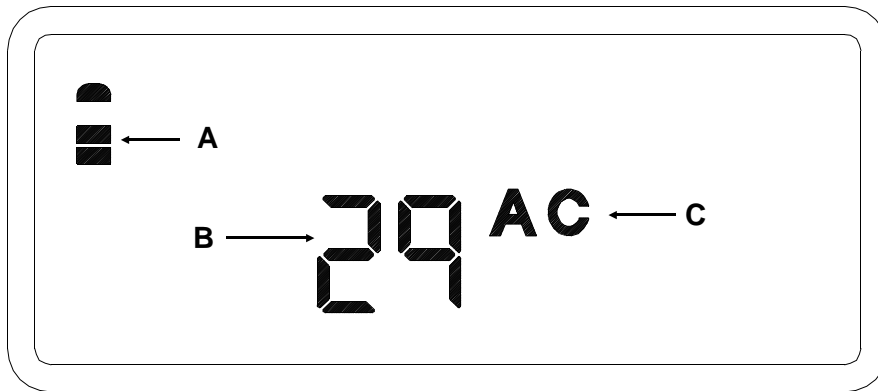

Figure 10
B. The refrigerator control displays AC current measured by the control. Figure 10 indicates 2.9 amps.